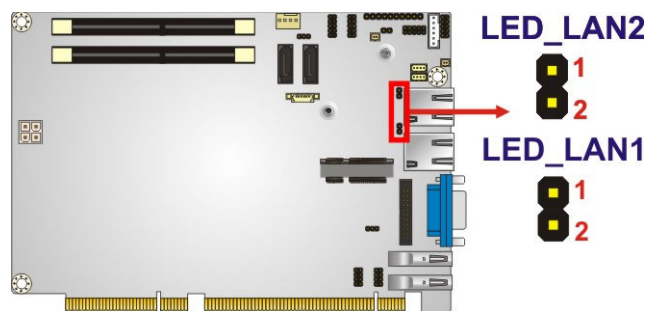

Figure 3-16: LAN LED Connector Locations
- CN Location:** See **Figure 3-16**